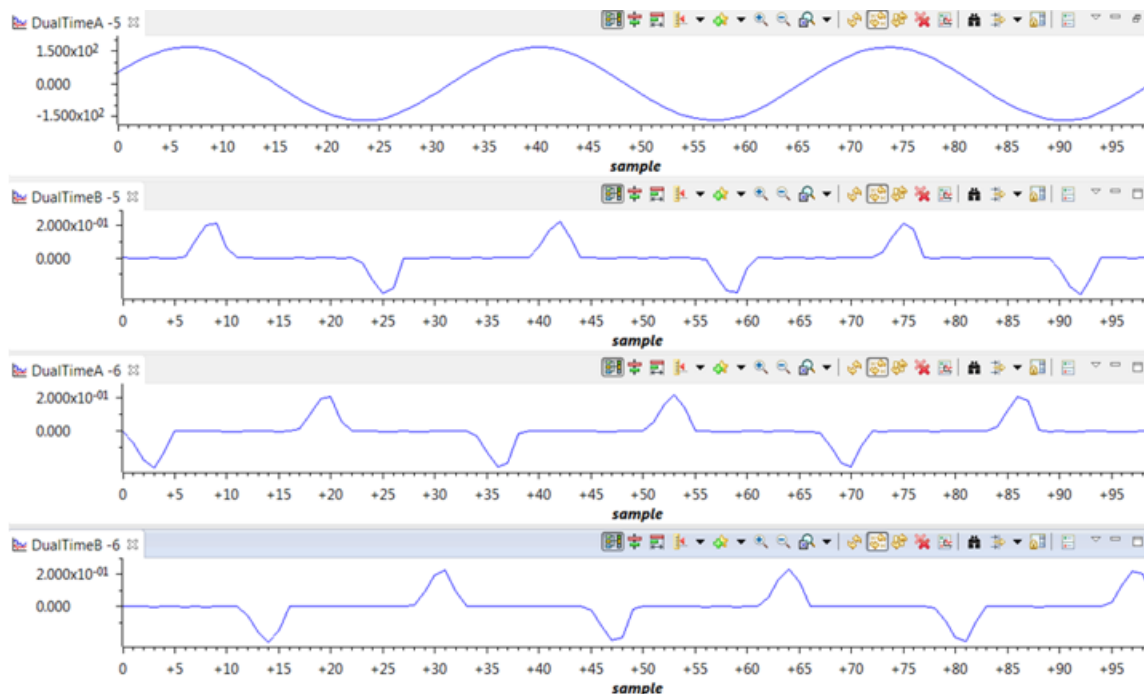

Figure 23. Build Level 1: Graph1.GraphProp and Graph2.GrpahProp Files Showing Measured Voltage and Currents
5. Verifying the current sensing: Notice the `guirms1/2/3`, for the given test condition this value will be close to 0.92 Amps. Additionally, the graphs must be seen to verify the current measurement. Under the test condition they will look as shown in Figure 23.